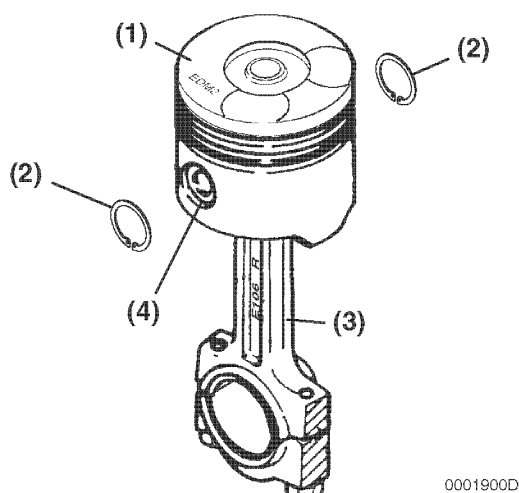

Figure 6-90
3. Lubricate the wrist pin (**Figure 6-90, (4)**). Carefully support the piston (**Figure 6-90, (1)**) to prevent damage while driving the wrist pin into place. Use a suitable tool slightly smaller than the inside diameter of the wrist pin bore to drive the wrist pin. Drive the wrist pin through the piston and connecting rod (**Figure 6-90, (3)**) using a soft-faced hammer until it is centered between the circlip grooves in the wrist pin bore of the piston.
4. Install a circlip (**Figure 6-90, (2)**) into each of the circlip grooves in the wrist pin bore. Be sure that the circlips are fully expanded in the grooves.